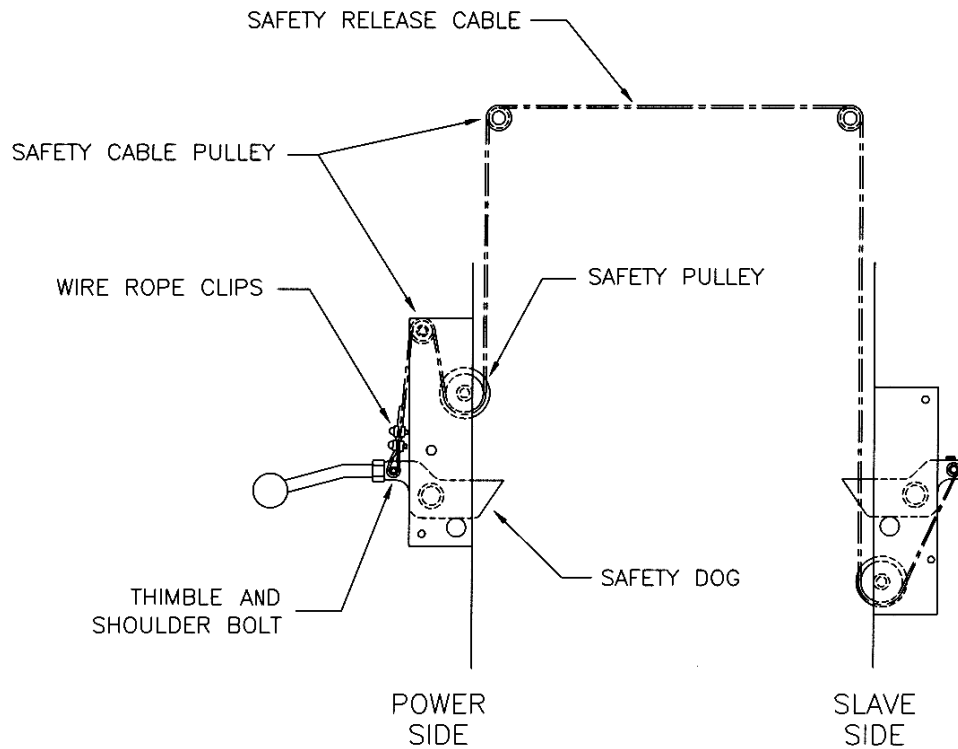

Figure 6 – Safety Release Cable Routing and Adjustment
3. Refer to **Figure 6** for safety release cable routing. The end of the cable that has a collar attaches to the slave side tower. The free end is fixed to the power side tower using two (2) wire rope clips.
8. Guide the cable up under the large pulley and then over the small pulley towards the safety dog as shown in Figure 6. Wrap the cable around the thimble (attached to the safety dog with a 3/8" x 1 1/2" lg. shoulder bolt) and then clamp it using two (2) wire rope clips. Do not tighten fully at this stage.